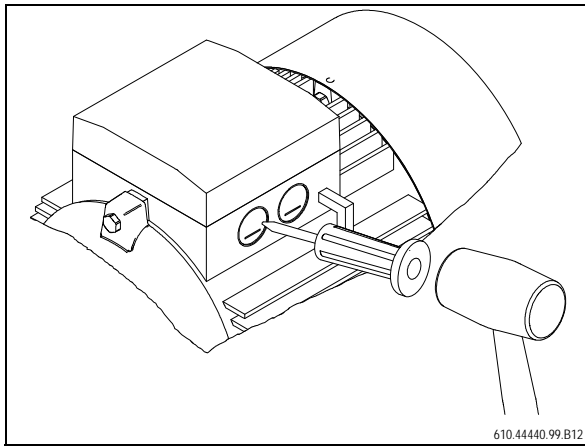

Fig. 11: Knocking out the openings in the terminal box
- Any scale / blind plugs are to be properly removed (Fig. 11, page 19).
- The initial pressure, p_A in operating-liquid supply line (item B, Fig. 11, page 20) is to be set at approx. 1 bar [14.5 psi] above the suction pressure, p_B in the suction line (item A, Fig. 11, page 20).